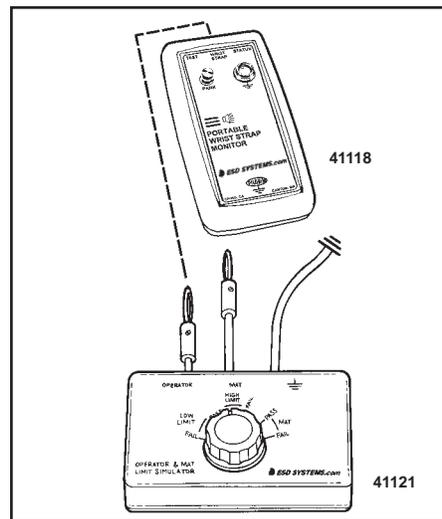

Figure 11. Connecting test lead from 41121 to 41118.
Step 2: Insert the calibration unit's banana plug marked "Operator" into the jack marked "Wrist Strap" on the 41118 tester. See figure 11.